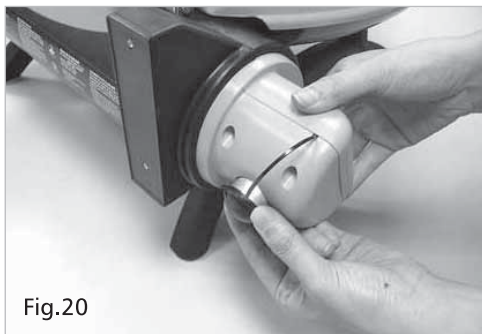

Fig.20
- When the O-Grill is not in use, the propane cylinder must be DISCONNECTED and the propane cylinder stored outdoors in a well-ventilated space. Place dust caps on cylinder valve outlets when cylinder is not in use (Fig.20)